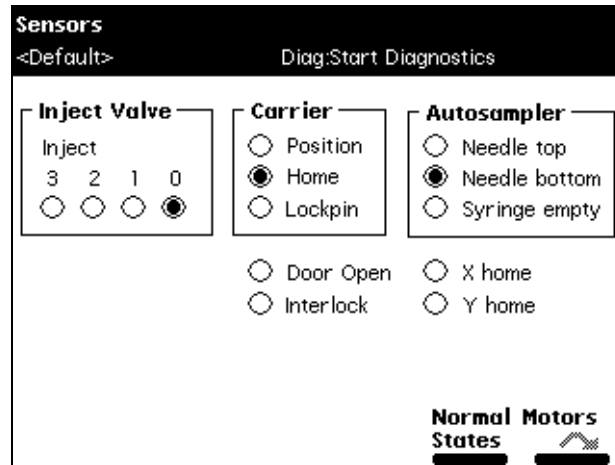

Figure 8-3 Sensors Diagnostics Screen
4. Press the **Sensors, Motors** screen key. The Sensors screen appears (Figure 8-3).
2. In the Other Diagnostics screen, press the **Sensors, Motors** screen key. The Sensors Diagnostics screen appears (Figure 8-3) indicating the current position of the: